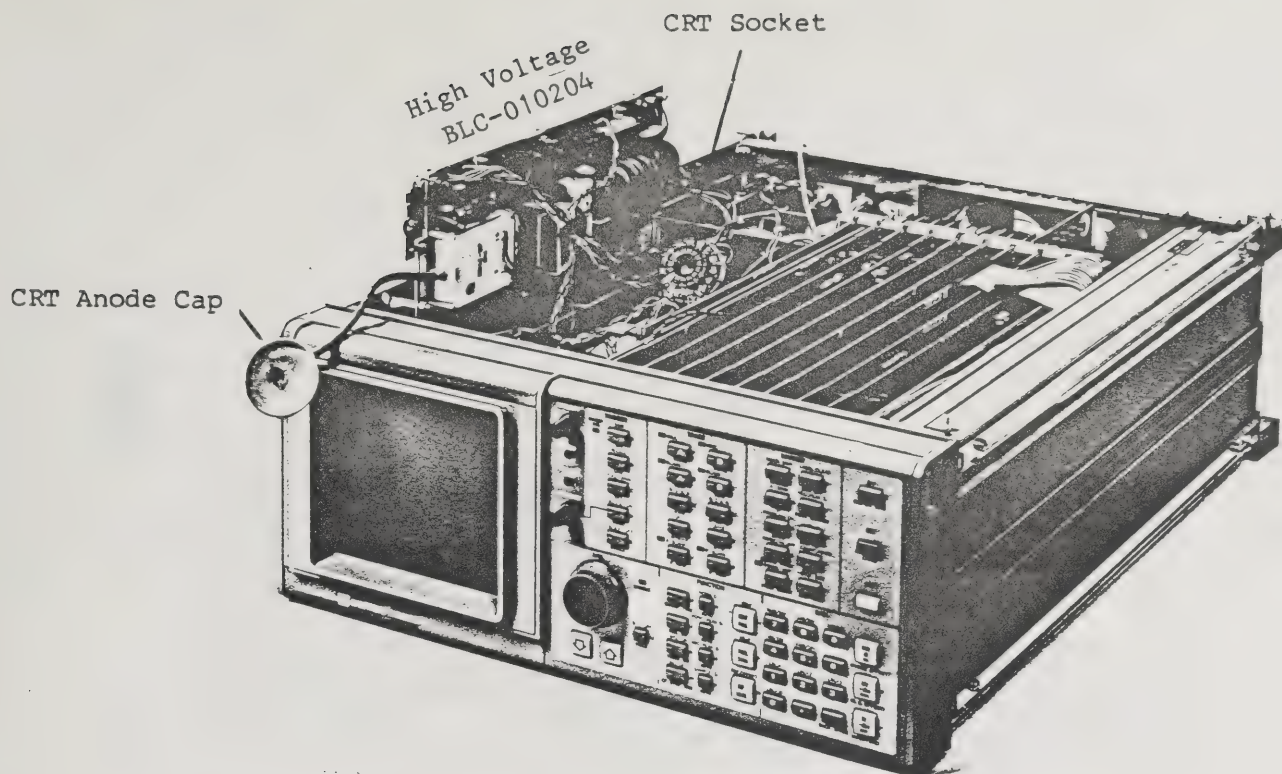

Fig. 11-4 Adjusting high voltage unit
- (3) Remove the High Voltage Unit (BLC-010204) from the display section, then temporarily secure it to the top left edge of the case as shown in Figure 11-4.